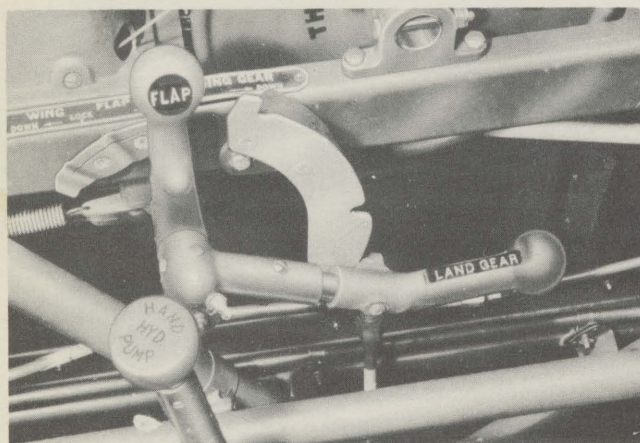

FIG. 5—LANDING GEAR CONTROL EMERGENCY POSITION
5. COMPLETE HYDRAULIC FAILURE (See figure 5.)